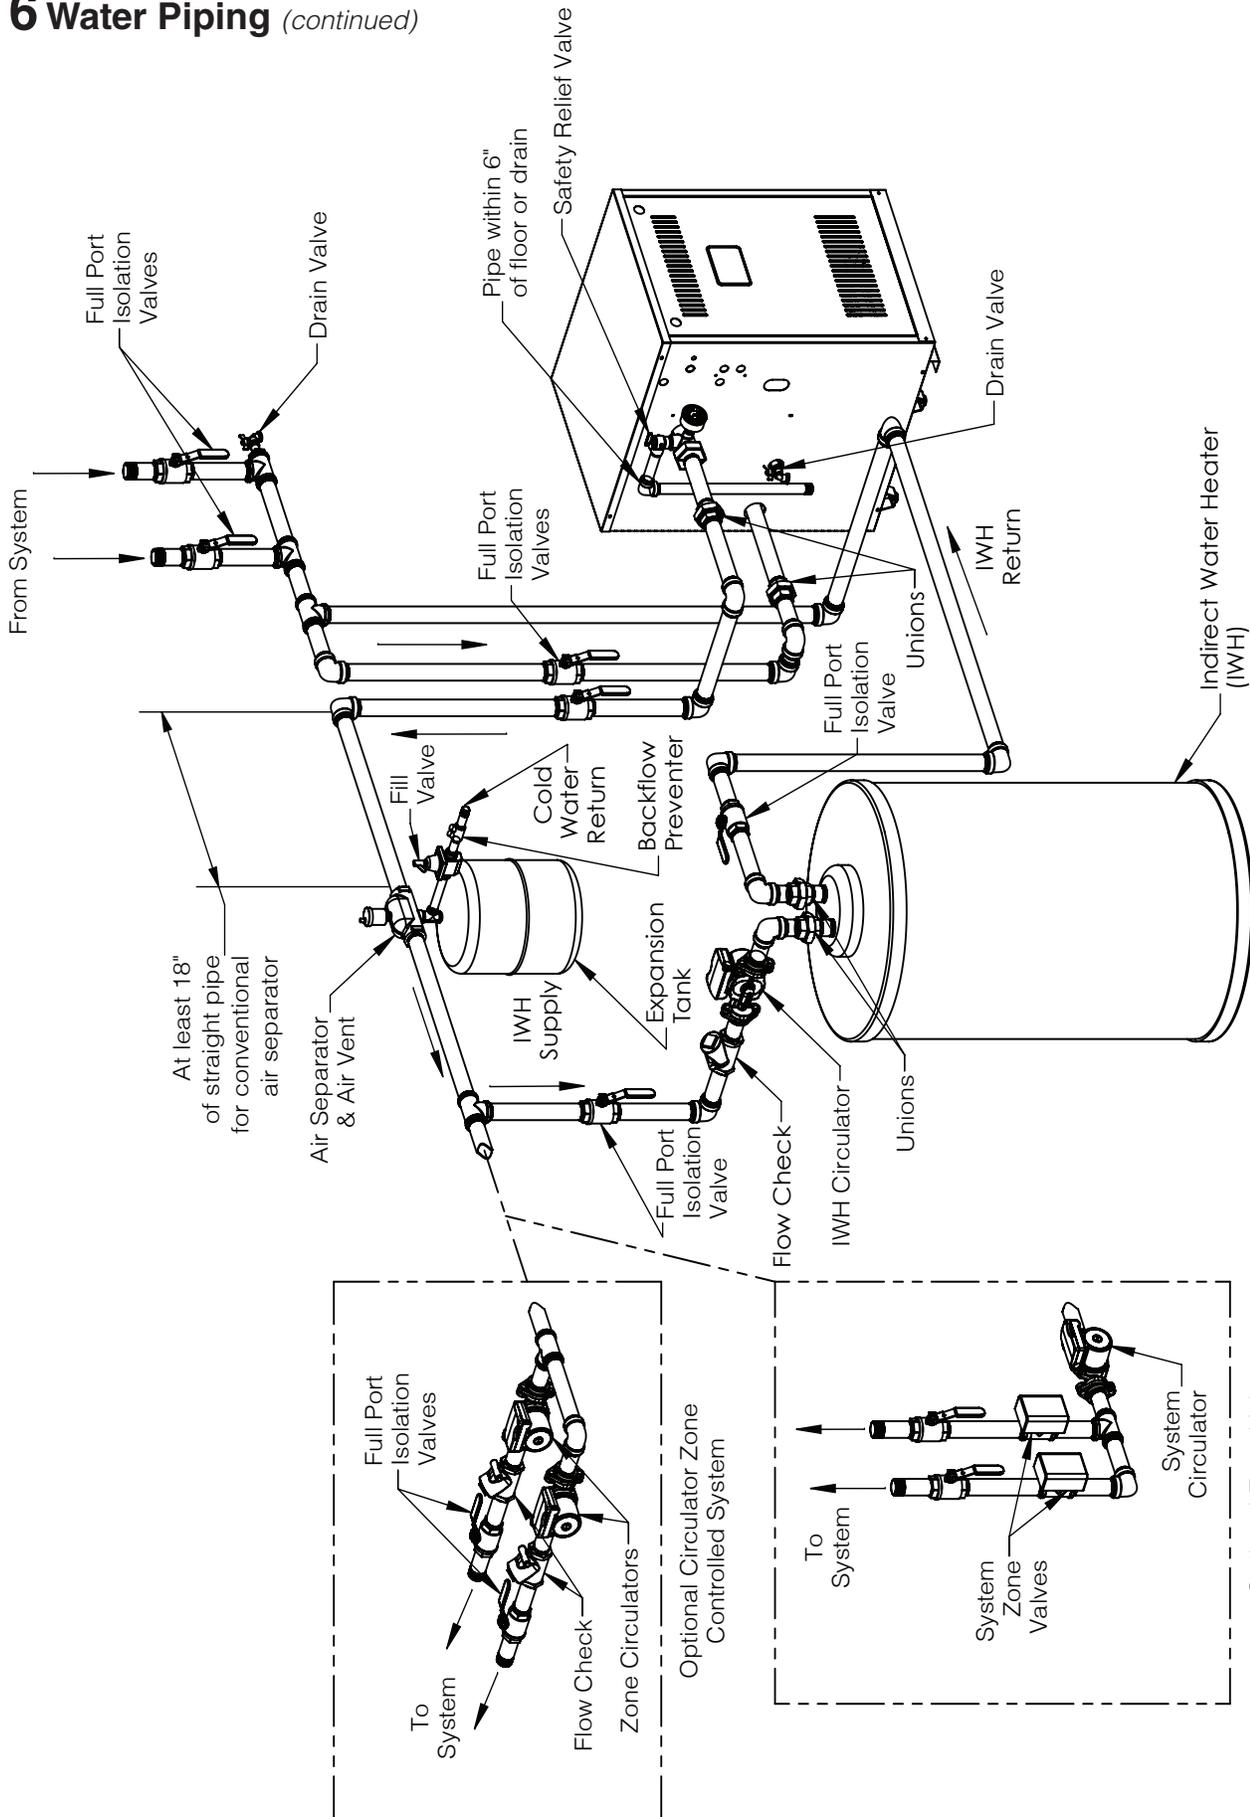

Figure 6-3: Recommended Water Piping Direct Connection System (left side)
- D. Connect system supply and return piping to boiler. Refer to Figures 6-3 and 6-4. Also consult Residential Hydronic Heating Installation and Design I=B=R Guide. Maintain minimum ½ inch clearance from hot water piping to combustible materials.
4. Attach hose to drain valve located on return piping (see Figure 6-3 and 6-4). Note-Terminate hose in five gallon bucket, at a suitable floor drain, or outdoor area).